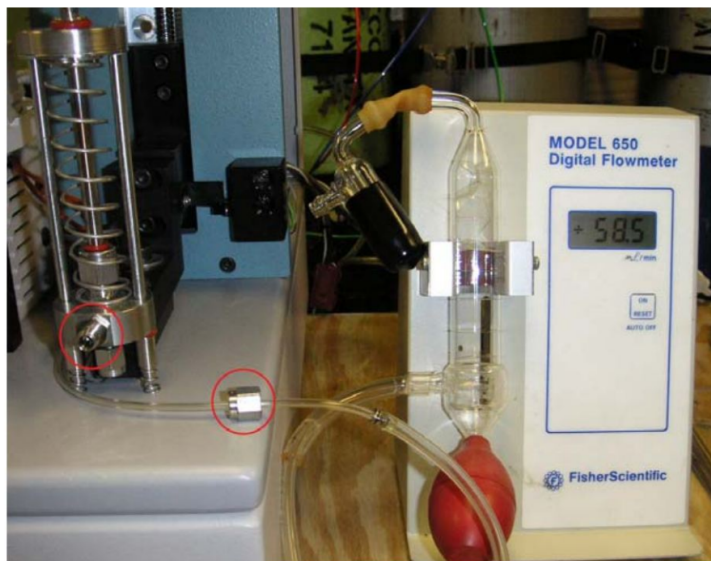

Figure 21. Gas Flow Measuring Equipment.
1. Unscrew the carrier/oxidation gas connector and connect gas line to a gas flowmeter (*Figure 21*). See *Using the Flowmeter to Measure Gas Flow* for instructions on using the flowmeter.
4. Unscrew the carrier/oxidation gas connector, and connect the gas line to the gas flowmeter at the T-junction just above the red bulb (*Figure 21*).